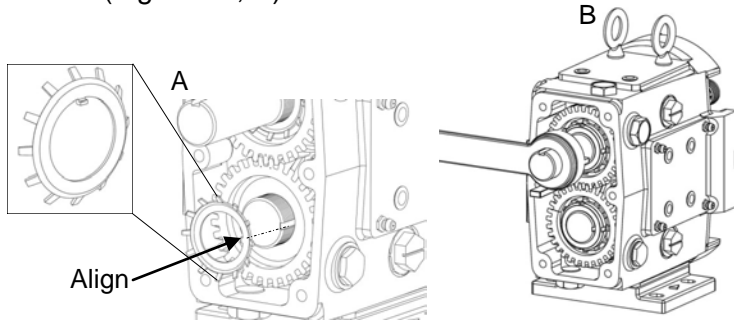

Figure 58: Installing Lock Washer and Lock Nut
9) Install the lock washers on the shaft by aligning the tab inside the lock washer with the slot in the shaft (Figure 58, A). Lubricate the threads of the lock nuts and thread them on the shafts. Using a spanner wrench, tighten them to the specified torque in Table 6. Use a wedge (wood or plastic) between the gear teeth to keep the shafts from turning while tightening the lock nuts (Figure 58, B).